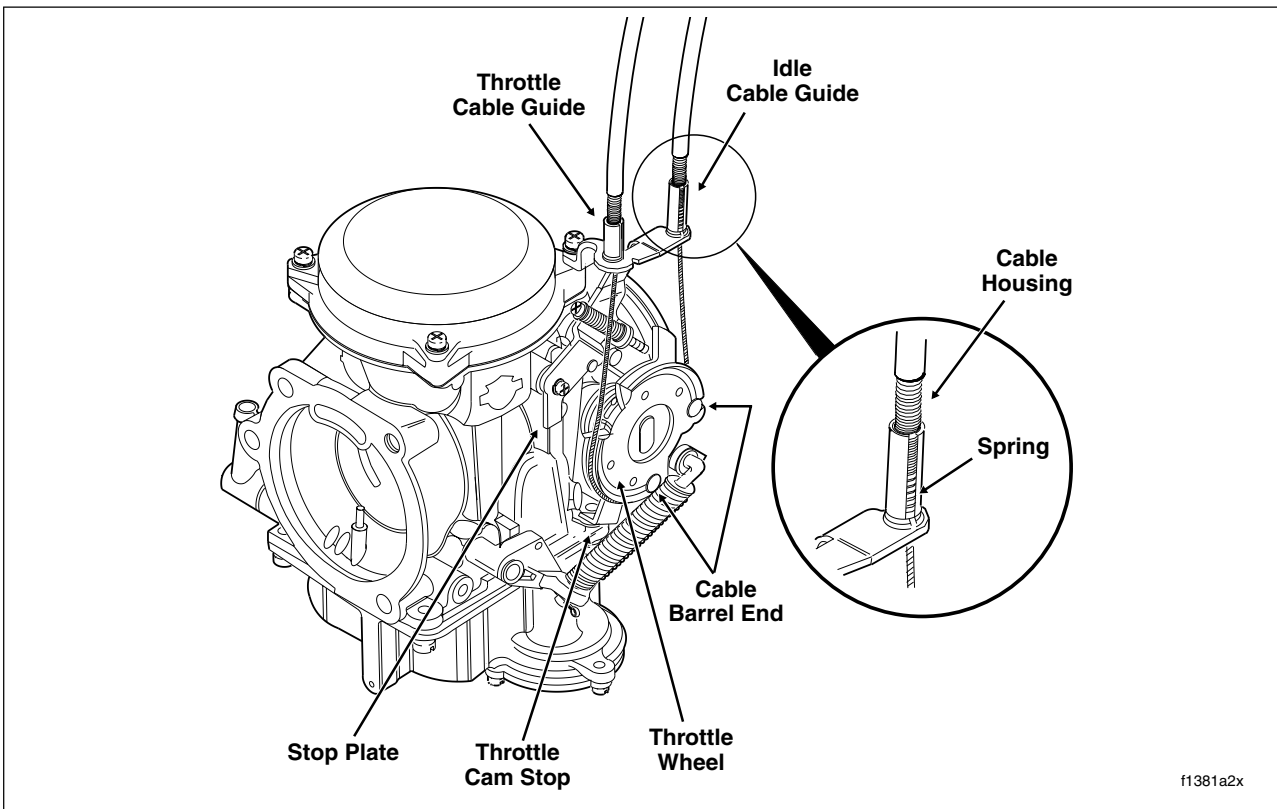

Figure 1-22. Throttle Cable Assembly - Carburetor Side
2. Point the front wheel straight ahead. Turn the throttle control grip so that the throttle is wide open (fully counterclockwise) and then hold in position. Now turn the throttle cable adjuster counterclockwise until the throttle cam stop just touches the stop plate on the carburetor. See Figure 1-22. Tighten jam nut against the throttle cable adjuster and then release the throttle control grip. Cover cable adjuster mechanism with rubber boot.